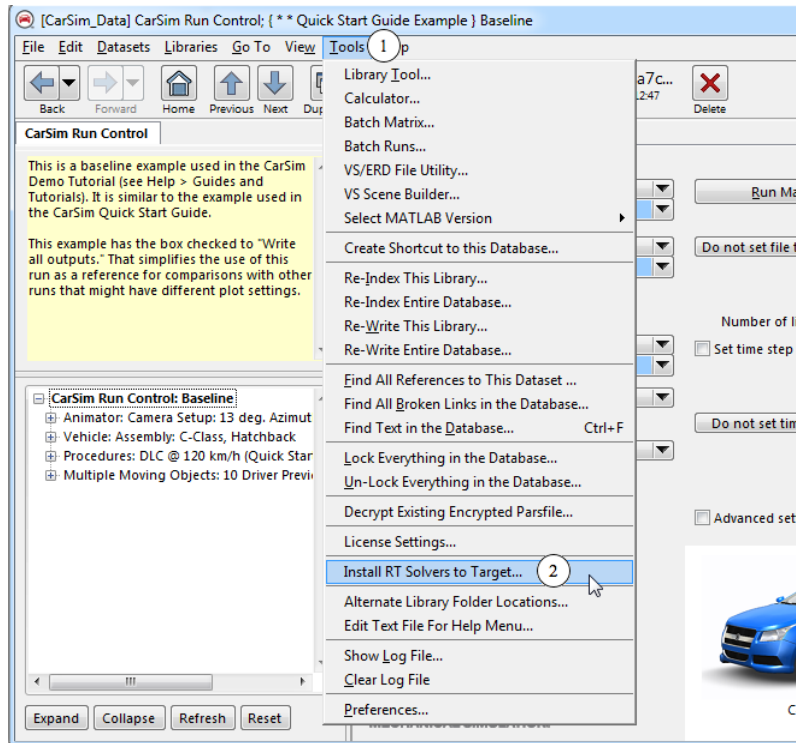
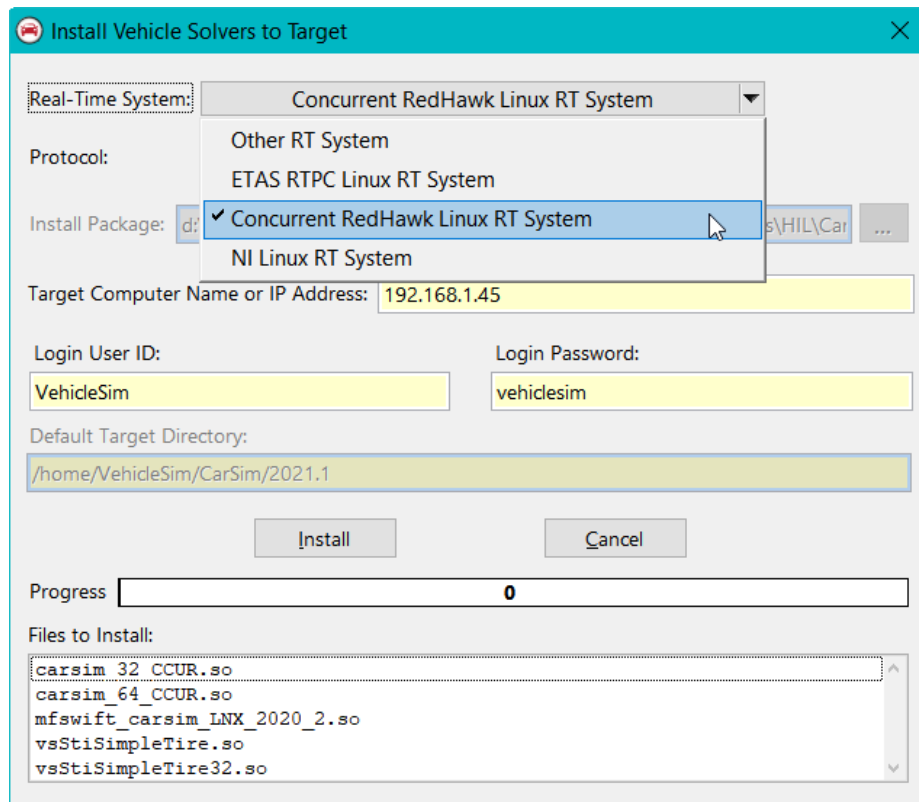

Figure 2. Tools menu to install VS RT solvers.
Figure 3. Select a target RT System to install Vehicle Solvers.
2. Go to **Tools > Install RT Solvers to Target...** (Figure 2). This opens a solver installation window (Figure 3).